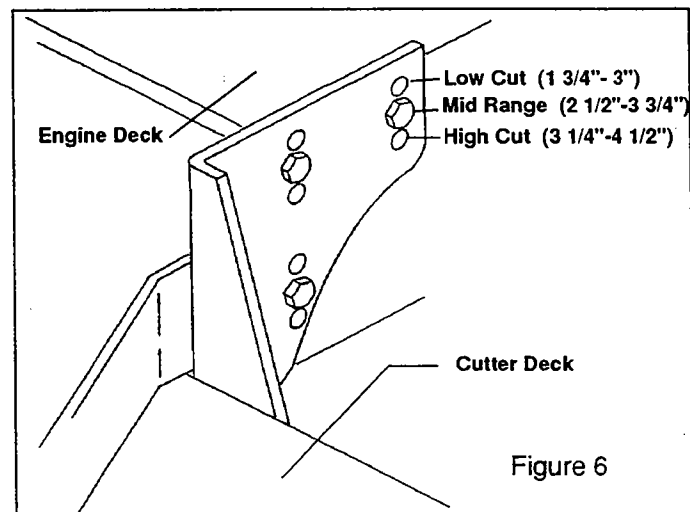

Figure 6
- a) Before beginning, determine which mounting holes are to be used to best suit the cutting height requirements of your customer. (see figure 6).
Additional range to the cutting height can be achieved by repositioning the cutter deck in relationship to the engine deck (This adjustment can also effect the pitch of the deck). There are 3 positions (see figure 6), suggested mounting is the middle holes. For cutting lower, mount the deck in the top holes. To cut higher, mount the deck in the bottom holes.